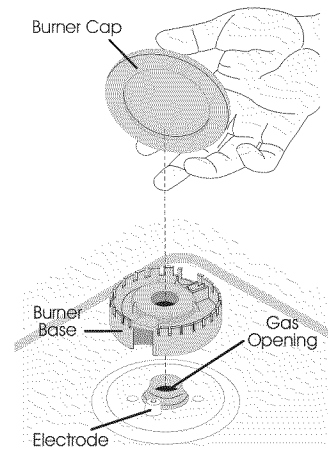

Figure 11
11.1 Install Burner Bases and Burner Caps This range is equipped with sealed burners as shown (see Figure 11).